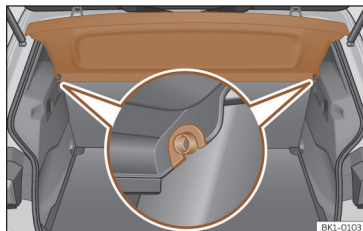

Fig. 162 In the boot: removing and installing the shelf.
- Remove the rear shelf from the side supports >>> **Fig. 162** by pulling it upwards and then take it out.
- Insert the cover horizontally so that the “recess” fits onto the axis of the supports >>> **Fig. 162** and press down until it engages.